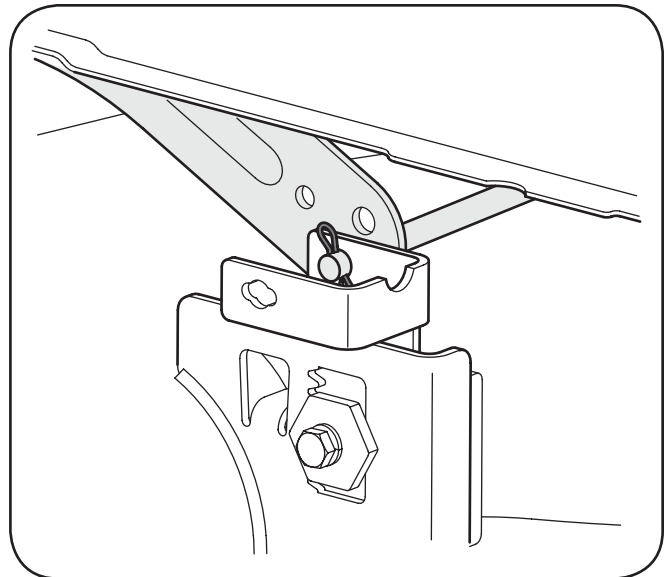

Figure 7-2
5. Looking at the cutting deck from the left side of the tractor, locate the bow-tie pin that secures the deck support rod on the rear left side of the deck. See Fig. 7-2. Remove the bow-tie pin that secures the deck support rod, and carefully remove the deck support from the deck lift arm.